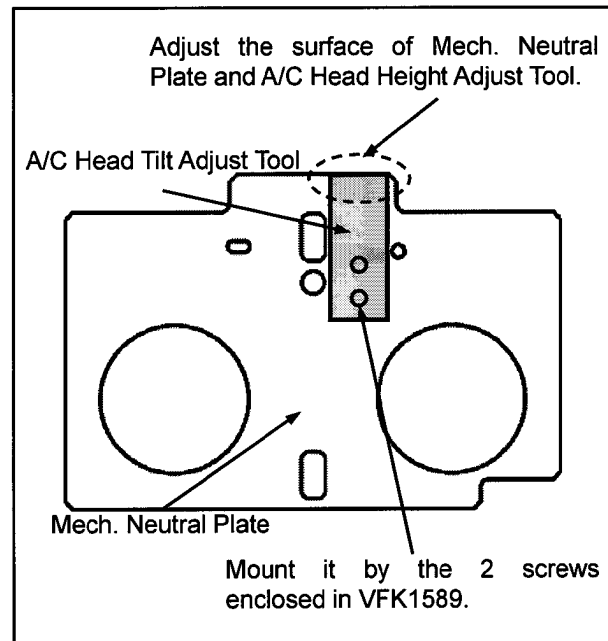

Figure 3-17-2
4. Mount the A/C Head Tilt Adjust Tool on the Mech. Neutral Plate as shown in figure 3-17-2.